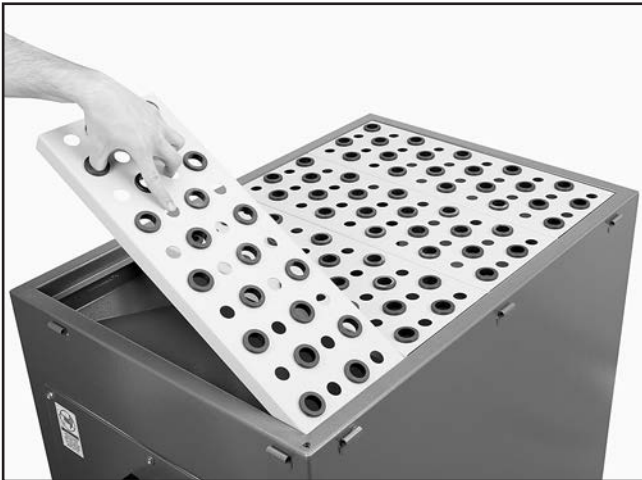

Figure 8. Installing downdraft plates.
6. Install the downdraft plates as shown in **Figure 8**.